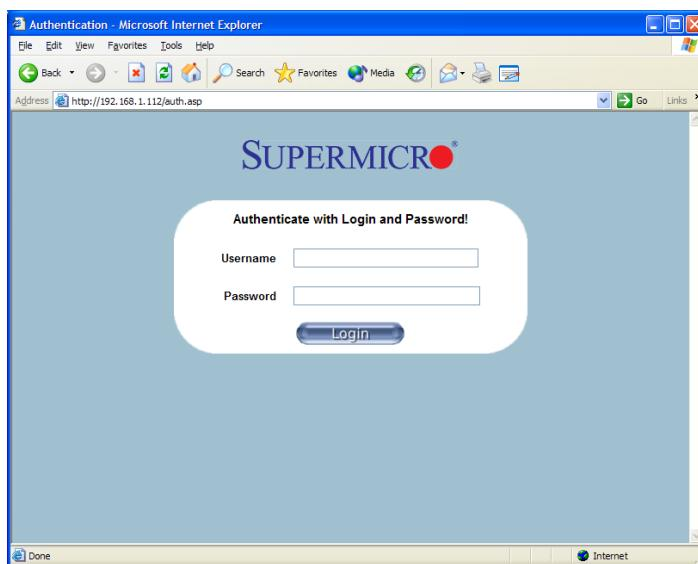

Figure 2-30 CMM Web Management Interface
- Web Management:** Opens a browser that is linked to the CMM web interface (Figure 2-30).